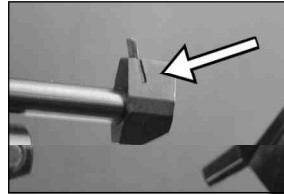

Figure 9a
**Sights:** The sights on your air pistol are designed for accuracy. The front sight is all metal and the rear sight is all metal with adjustments for windage and elevation. See **Figures 9a** and **9b**.